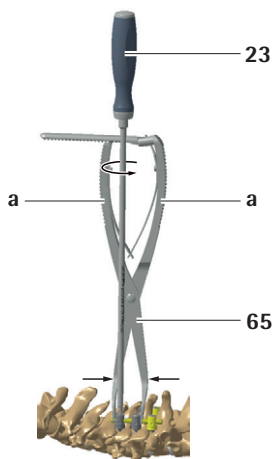

Fig. 44
- ▶ Loosen or leave loose adjacent set screw while squeezing the handles **a** to start the distraction/compression process, see Fig. 44.